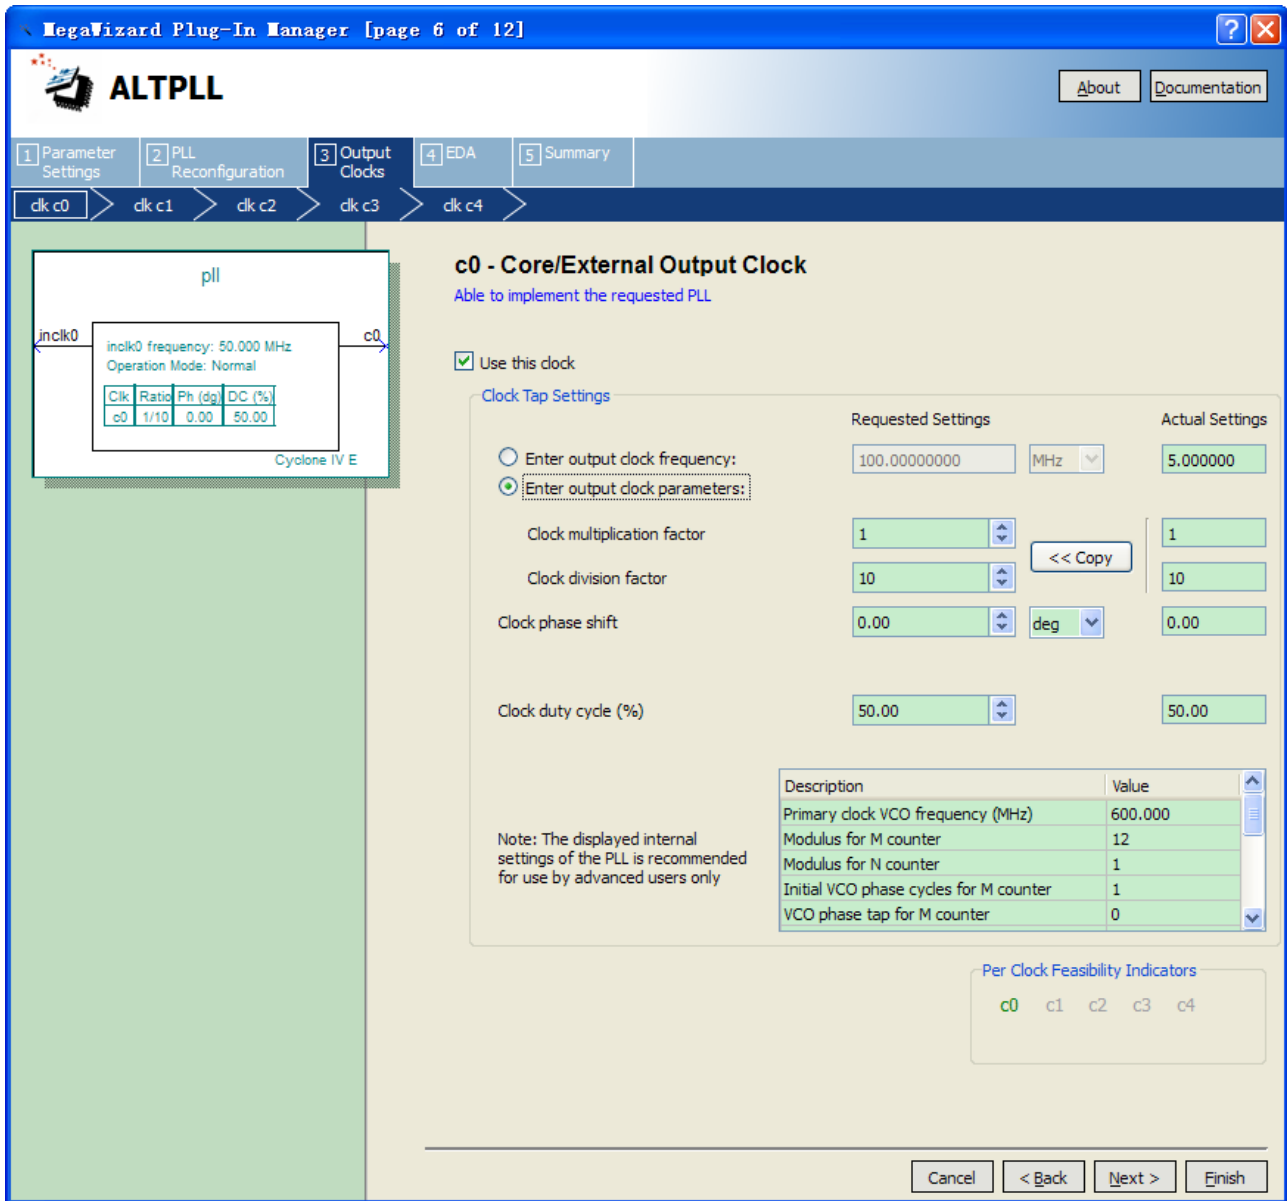

Figure 6-23 MegaWizard Plug-In Manager [page 8 of 14] Selections
8. Set the Clock division factor to **10**, as shown in **Figure 6-23**.